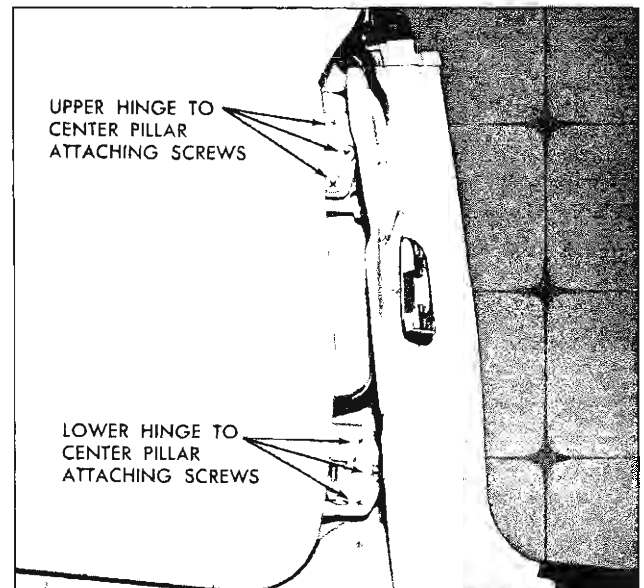

Fig. 46—Rear Door to Center Hinge Pillar Attachment
4. With door properly supported, remove three upper and lower hinge attaching screws at door hinge pillar or center pillar depending on method of removal (fig. 46).
2. To adjust door fore or aft, loosen hinge to center pillar attaching screws, adjust door fore or aft as required and tighten screws (fig. 46).